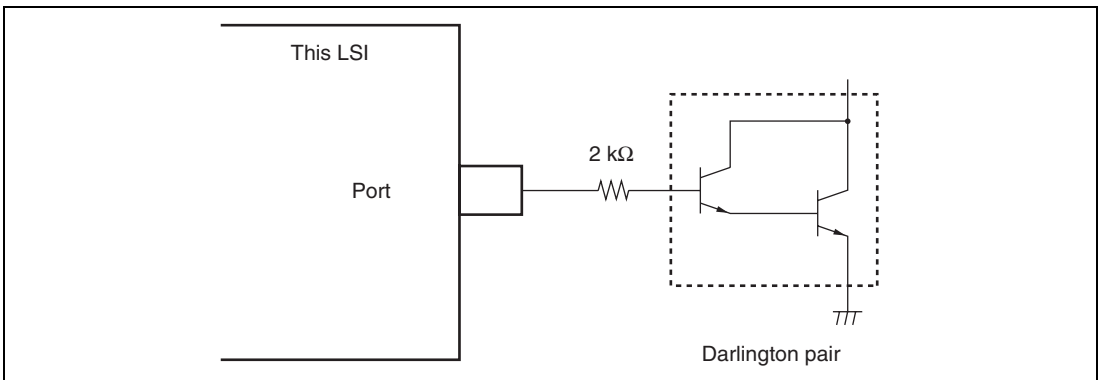

Figure 20.27 Darlington Pair Driving Circuit (Example)
2. When driving a Darlington pair or LED, always insert a current-limiting resistor in the output line, as shown in figures 20.27 and 20.28.